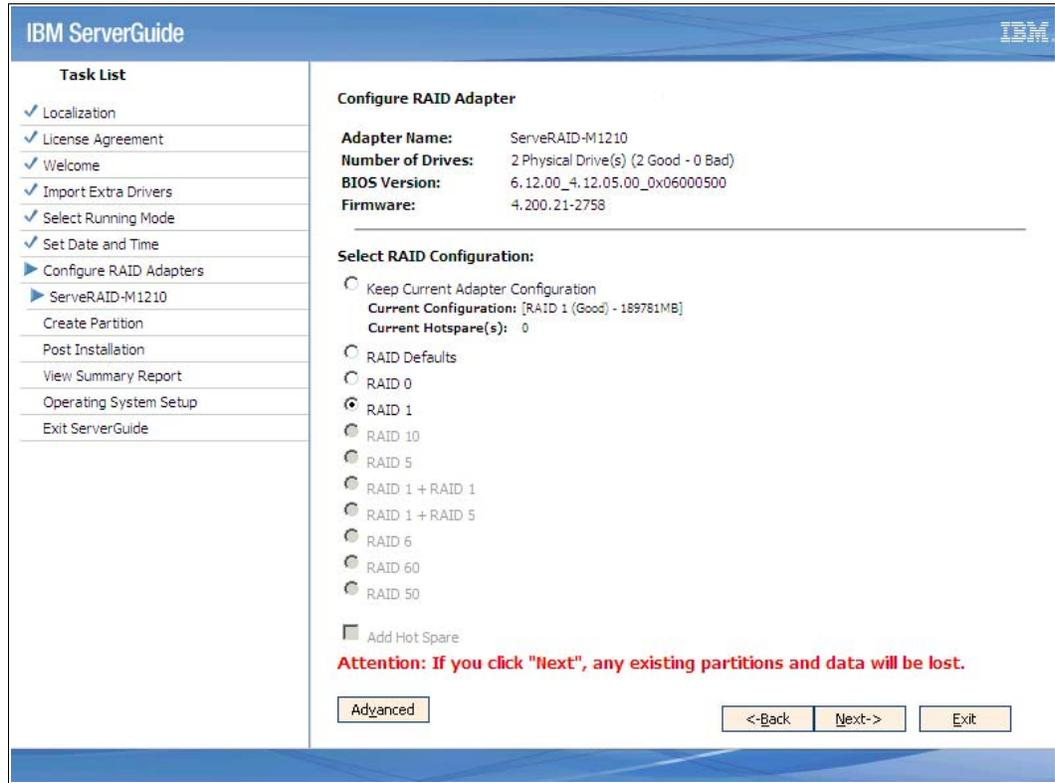

Figure 6-33 RAID selection
11. Create a RAID configuration. Select a RAID configuration and click **Next**, as shown in Figure 6-33.